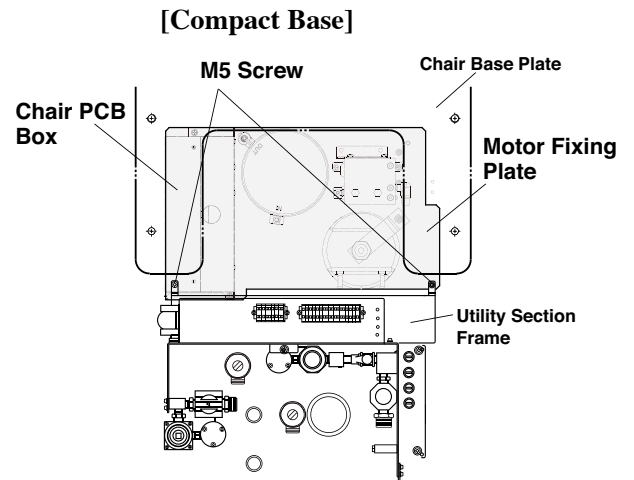

Fig.6-8b Utility Section Frame Installation
C. Fix the utility section frame to the motor fixing plate with 2 x M5 screws. (Fig.6-8b)